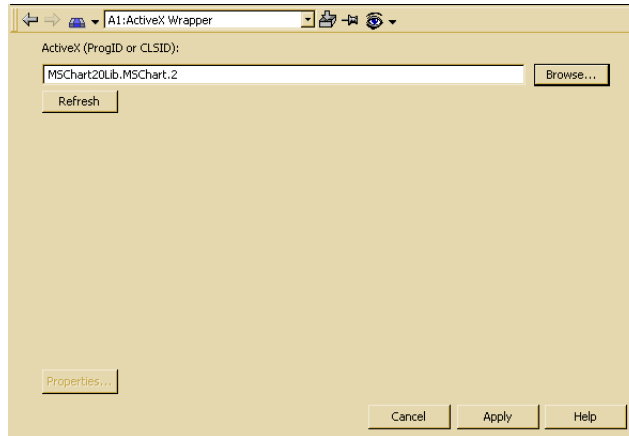

Figure 239. The ActiveX Wrapper Aspect Dialog Box
5. Click the **Refresh** button in the ActiveX Wrapper dialog, see Figure 239, to verify that you have selected the proper ActiveX Wrapper.